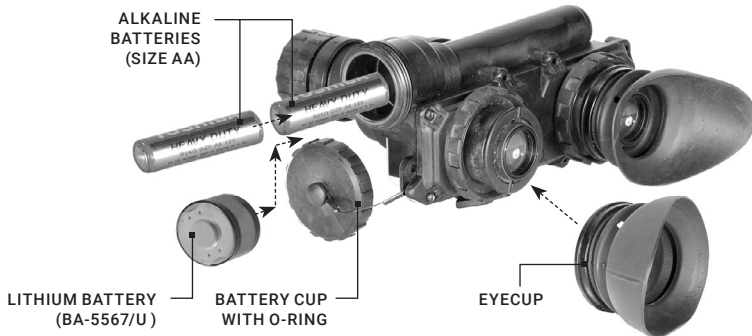

FIGURE 2-2. BATTERY AND EYECUP INSTALLATION
3. Following the polarity markings on the outside of the battery compartment, insert either two AA (1.5 V) batteries or one BA-5567/U Lithium (3.0 V) battery into the battery compartment, positive (+) end first (see Figure 2-2).
To install the eyecups (refer to Figure 2-2):